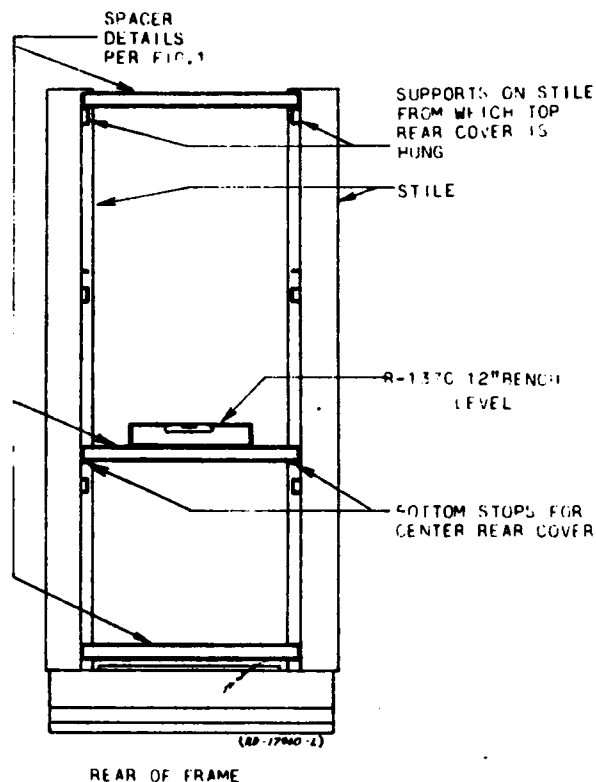

FIG. 4 LOCATION OF SPACER DETAILS AND 12" BENCH LEVEL
5.411 The piece part numbers and widths of the different rear covers used in No. 5 Crossbar frames are given in Figure 3. Determine the different widths of covers used on the particular job and make three spacers per Figure 3 for each different width. It will be noted that dimension "A" in Figure 3 is $1/8$ " more than the width of the associated cover. Thus, when the spacers are used as shown in Figure 4, the stiles will be spaced so that the covers can be inserted and removed without binding.
5.421 Check the bottom stops for the center rear cover to see that they are approximately at right angles with the stiles. The stops can be bent up or down as required, with the R-7880, 6" gas pliers. Locate the spacer details between the stiles as shown in Figure 4. Move the stiles towards each other until the spacer details are snug between the stiles.
(a) Place an R-1370 12" bench level approximately in the center of the middle spacer detail as shown in Figure 4. Be sure that the spacer is resting on the cover stops. Move the stiles up or down until the leveling bubble is in the center of the vial.